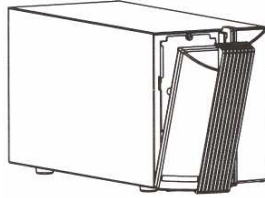

fig. 10: Removing the Front Panel
1. Remove plastic bezel from the front of the FPS by pulling the top left corner forward and sliding the front panel off (see fig. 10).